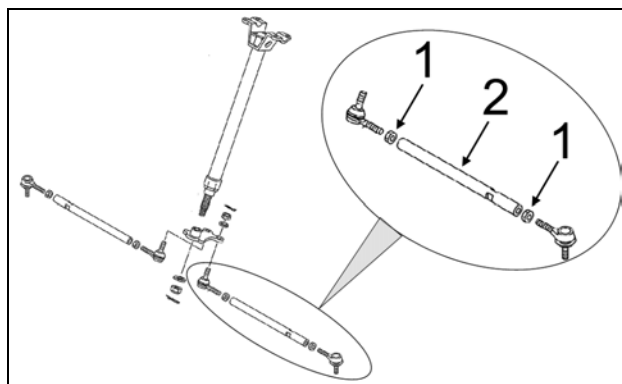

Figure 18
To adjust the ATV's steering system, first loosen coupling rod nuts (1), then screw or unscrew the coupling rod (2) an equal number of revolutions on both sides of the vehicle. Re-tighten nuts when adjustment is complete. See Figure 18.